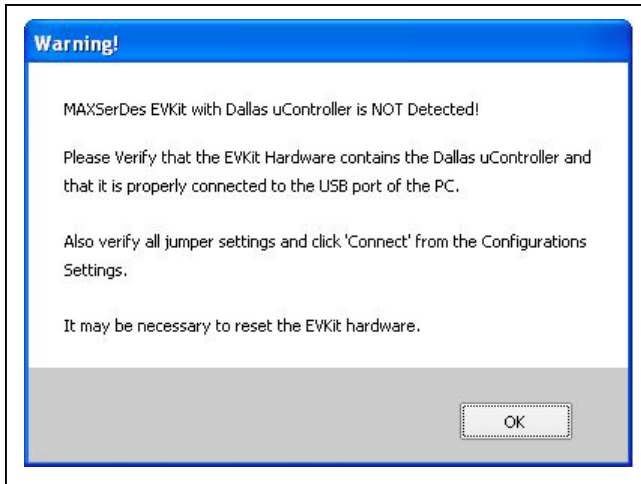

Figure 3. MAXSerDesEV-D Evaluation Kit Software (Warning!) No uC Found
- 10) If an operating evaluation board with a Dallas microcontroller is not found, a window opens warning as such (see Figure 3). Press **OK** to continue and start the GUI anyway, or press **Cancel** to terminate the application. See the Troubleshooting section at the end of this document to fix the problem before continuing. When an operating Dallas microcontroller is found, the GUI searches for active listeners with known **Device ID** code. If found, the GUI identifies the device under test (DUT) and displays the corresponding list of jumpers on the EV board that must be set for the board to operate as desired.